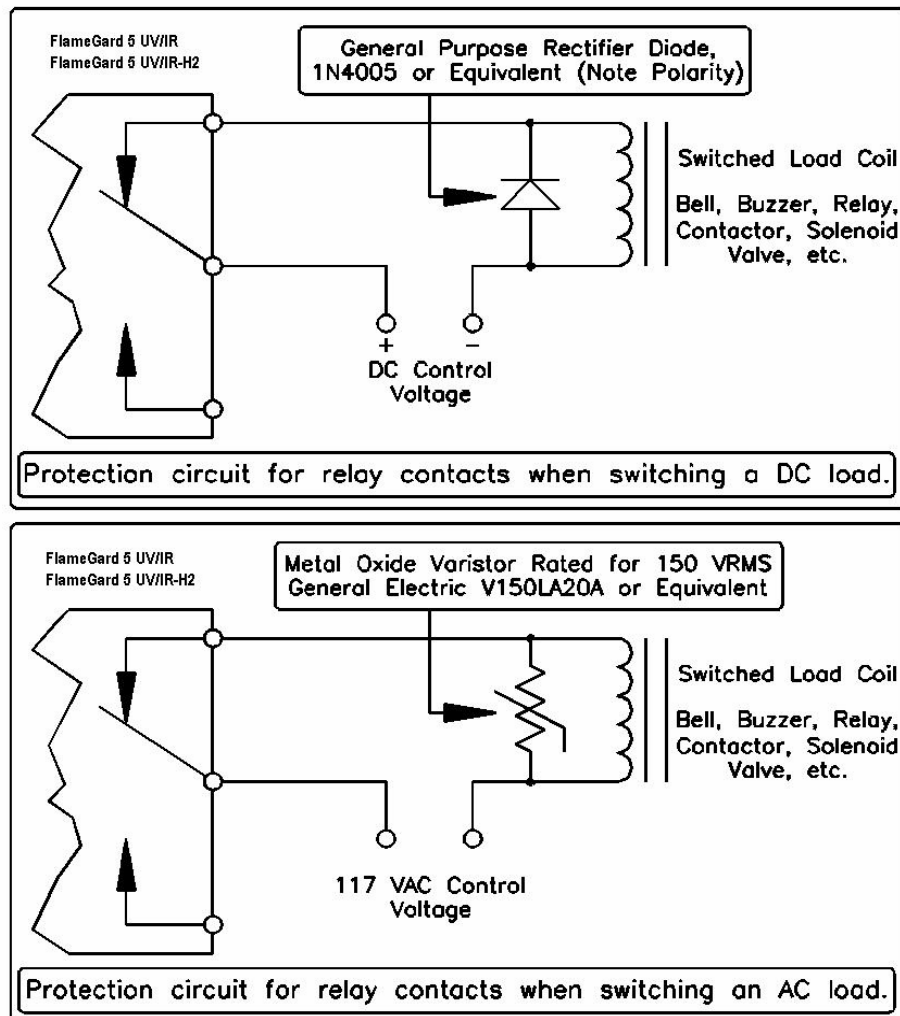

Figure 18: Protection Circuits for Relay Contacts
**WARNING:** Relay contacts must be protected against transient and over-voltage conditions (Figure 18).
These connections are for the SPDT ALARM relay. The ALARM output is time delayed for 2, 4, 8 or 10 seconds. This time delay can be set by Modbus, HART, or by Dipswitch. The ALARM output can be normally energized or normally de-energized, latching or non-latching, and these options can be set by Modbus, HART, or by Dipswitch (Section 4.4). For all relay connections see Figure 18.
**CAUTION:** Inductive loads (bells, buzzers, relays, etc.) on dry relay contacts must be clamped down as shown in Figure 18. Unclamped inductive loads can generate voltage spikes in excess of 1000 Volts. Spikes of this magnitude may cause false alarms and contact damage.
*European Union (EU) Approved Applications:* The WARN relay contact ratings are 8A, 30 V RMS/42.4 V peak or 8A @ 30 VDC resistive max.